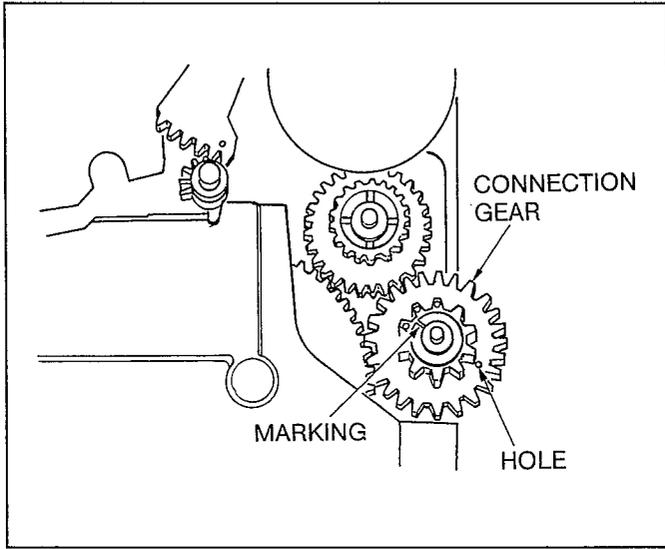

Fig. A14
3. Memorize the position of marking or hole on the Connection Gear (located top view, right side as shown in Fig.A14) and turn the Capstan Motor to counter clockwise so that marking or hole of Connection Gear return to just one rotation back and keep this position.